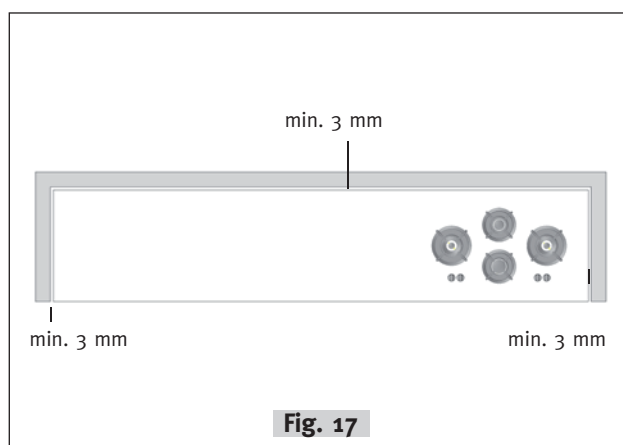

Fig. 17
- 4d. The distance between the kitchen worktop and the wall and/or cabinets should be at least 3 mm (**fig. 17**). This allows the material to expand.